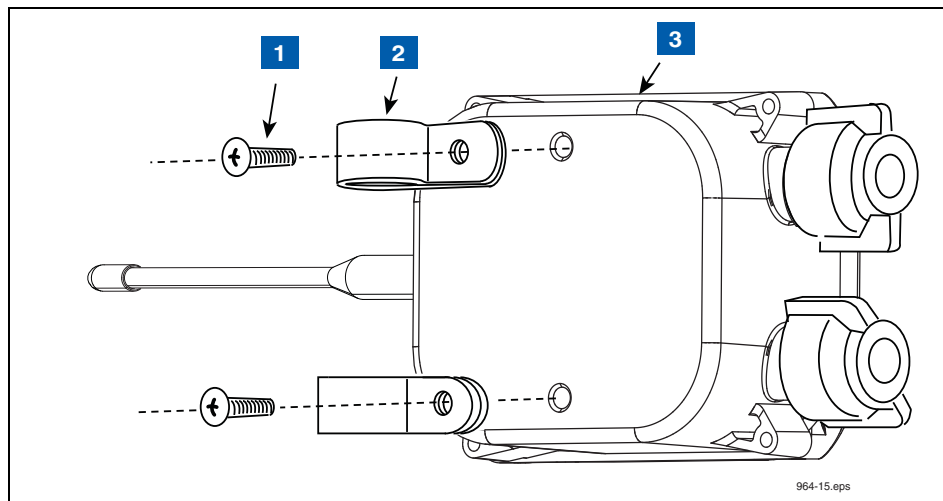

Figure 15. Attaching Conduit Clamps To Transmitter Housing
3. Attach two conduit clamps to the Transmitter as shown in Figure 15. Do not tighten screws at this time.
**LEGEND FOR NUMBERED BOXES IN Figure 15**